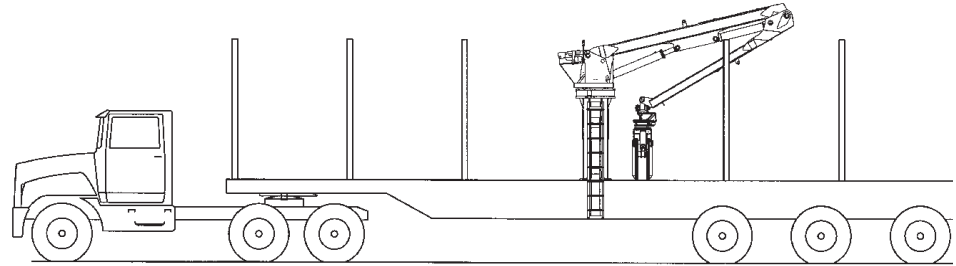

Figure 14 - Loader position on carrier for storage
7. Store the loader in the position shown in *Figure 14*, below, if possible. It prevents rusting of the cylinder rods.